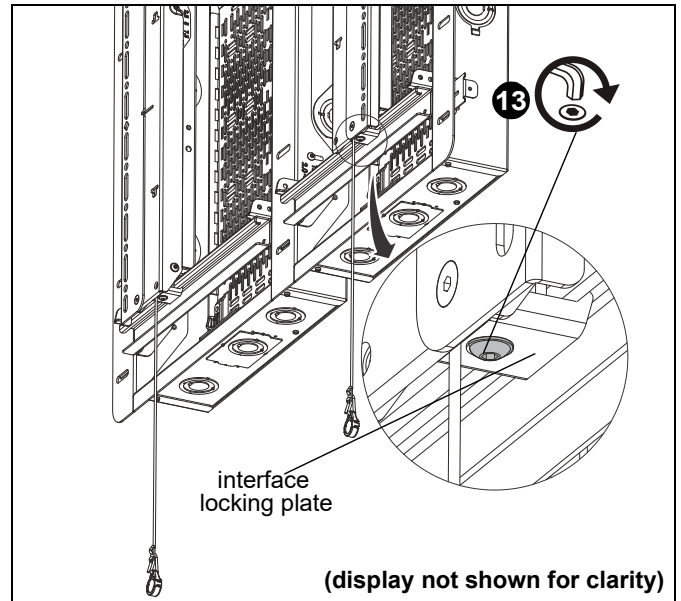

Figure 22
13. Tighten screws that were loosened in Step 8 until interface rail hook is secured under lower rail on both interface brackets. (See Figure 22)